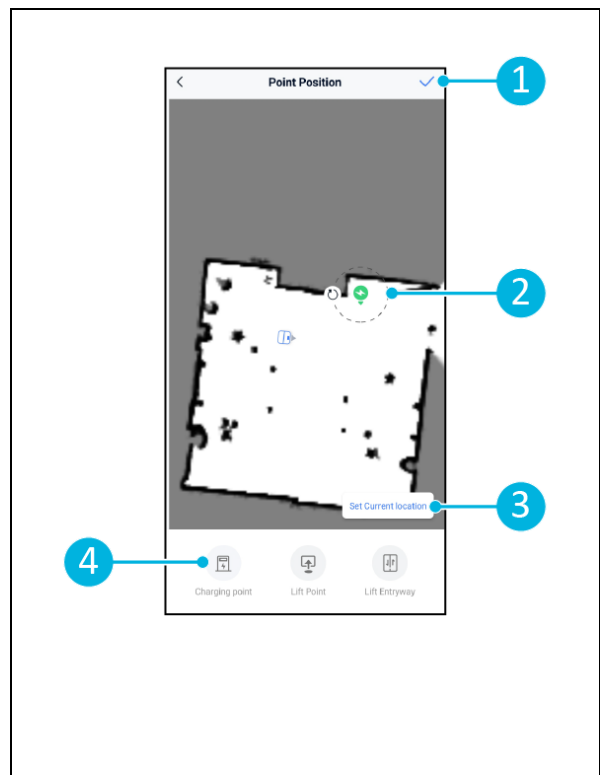

Figure 22
- a. Use the remote control to move the co-botic™ 45 to the desired starting point and select [\[Set Current location\]](#) (3). When using set current location, make sure the robot is localized properly, see 6.7.1.
- b. Drag the starting point (Figure 22, pos. 2) to the desired location on the map and orient it in the desired direction.
4. Select [\[✓\]](#) (Figure 22, pos. 1) to save.